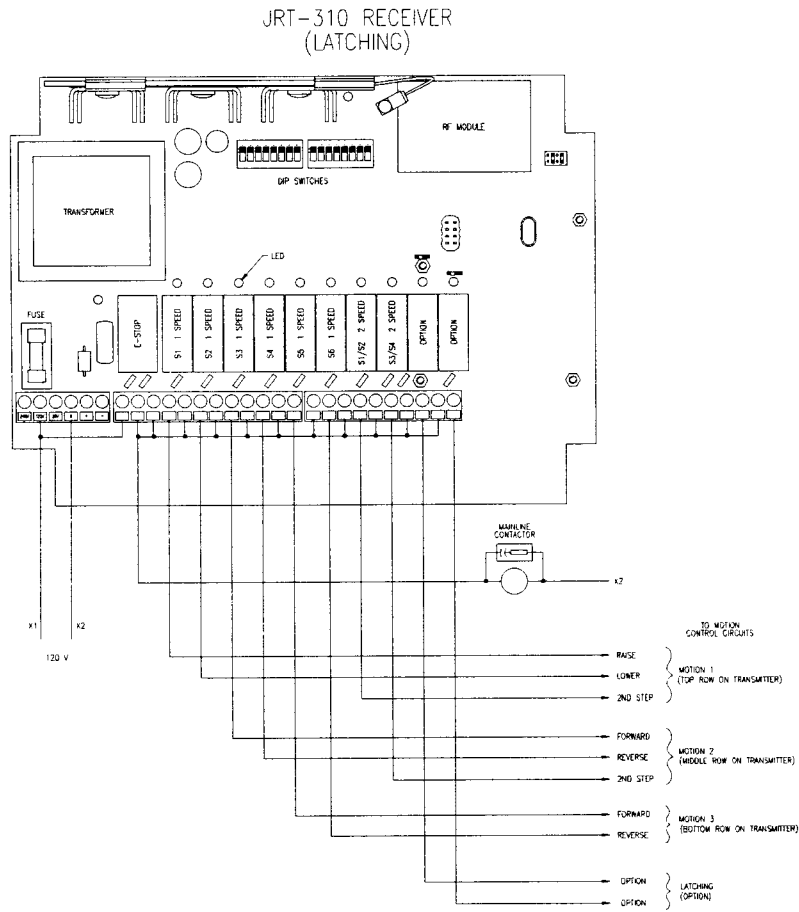
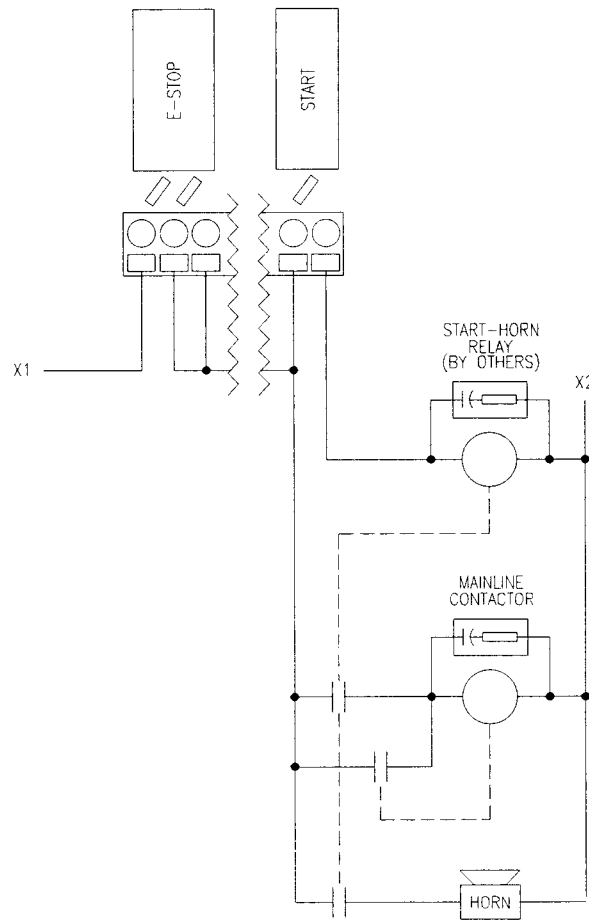

Figure 2.6: PulseStar jr. Receiver Circuit Board for A/B Select
Figure 2.9
4. If you are connecting the PulseStar•jr. receiver to a horn, refer to Figure 2.6: PulseStar•jr. Receiver Circuit Board on the previous page and then refer to Figure 2.9.